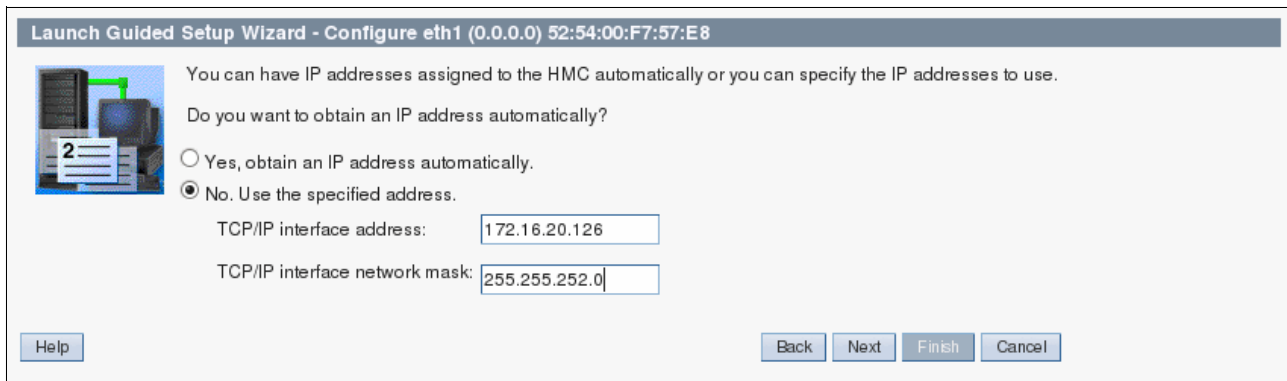

Figure 3-94 Set an IP address for eth1
23. Select an IP address and subnet mask (Figure 3-94) and click **Next**.